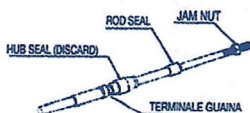

Fig. 1
1. At the control cable end located back towards the engine, remove the threaded jam nut, rod seal and hub seal. **Fig.1**